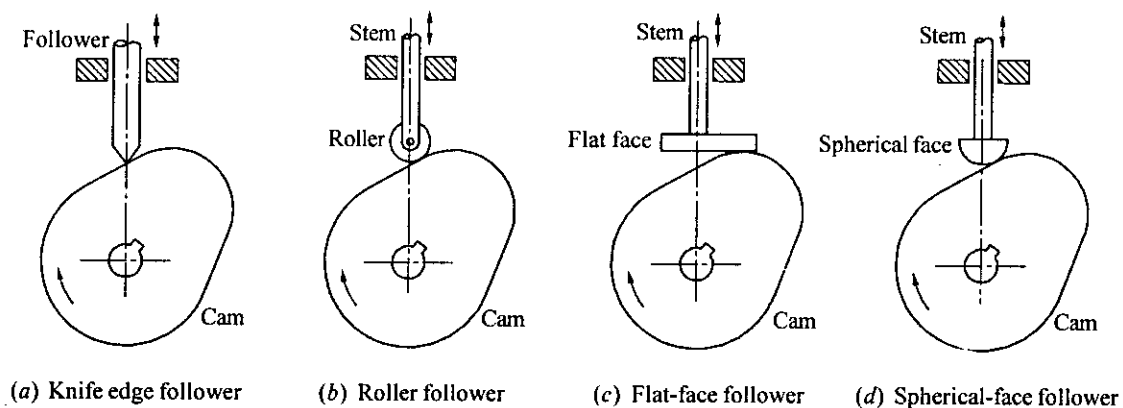

Fig. 8.2 Follower shapes
A knife-edge follower consists of a follower that is formed to a point and drags on the edge of the cam. It is the simplest form, but the sharp edge produces high contact stresses and wear rapidly (fig. 8.2 *a*).
A roller follower consists of a roller that is pinned to the follower stem as shown in fig. 8.2 *b*. As the cam rotates, the roller maintains contact with the cam and rolls on the cam surface. This is the most commonly used follower, as the friction and contact stresses are lower than those for the knife-edge follower. However a roller follower can possibly jam during steep cam displacements.
A flat faced follower is shown in fig. 8.2 c. It can be used with a steep cam motion. The friction forces in this type are greater than those of the roller follower.
A spherical - faced follower shown in fig. 8.2 d consists of a follower with a radius face that contact the cam. The spherical faced follower can be used with a steep cam motion without jamming.
1. *In-line follower:* In in-line follower, the line of translation extends through the center of rotation of the cam (refer fig. 8.2).
1. *Translating follower:* The path of the translating follower is along a straight line (fig. 8.2).